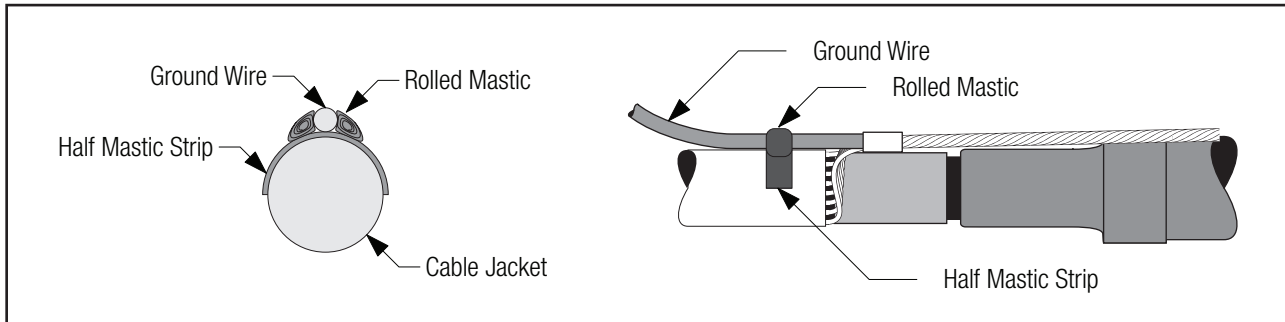

Figure 22
6.2 Cut one mastic sealing strip into two equal pieces. Place one piece on the cable jacket centered under the ground wire, near the jacket end. Roll the two remaining full length mastic strips into small rolls. Place one roll on each side of the ground wire (*Figure 22*).